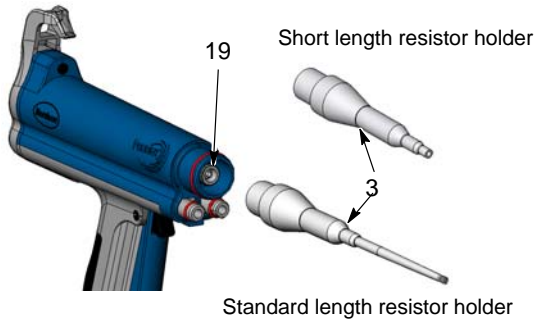

Figure 23 Removing the Resistor Holder
- See Figure 23. Unscrew the resistor holder (3) from the multiplier (19).
- See Figure 23. Screw the resistor holder onto the multiplier.
4. See Figure 23. Screw the resistor holder onto the multiplier.